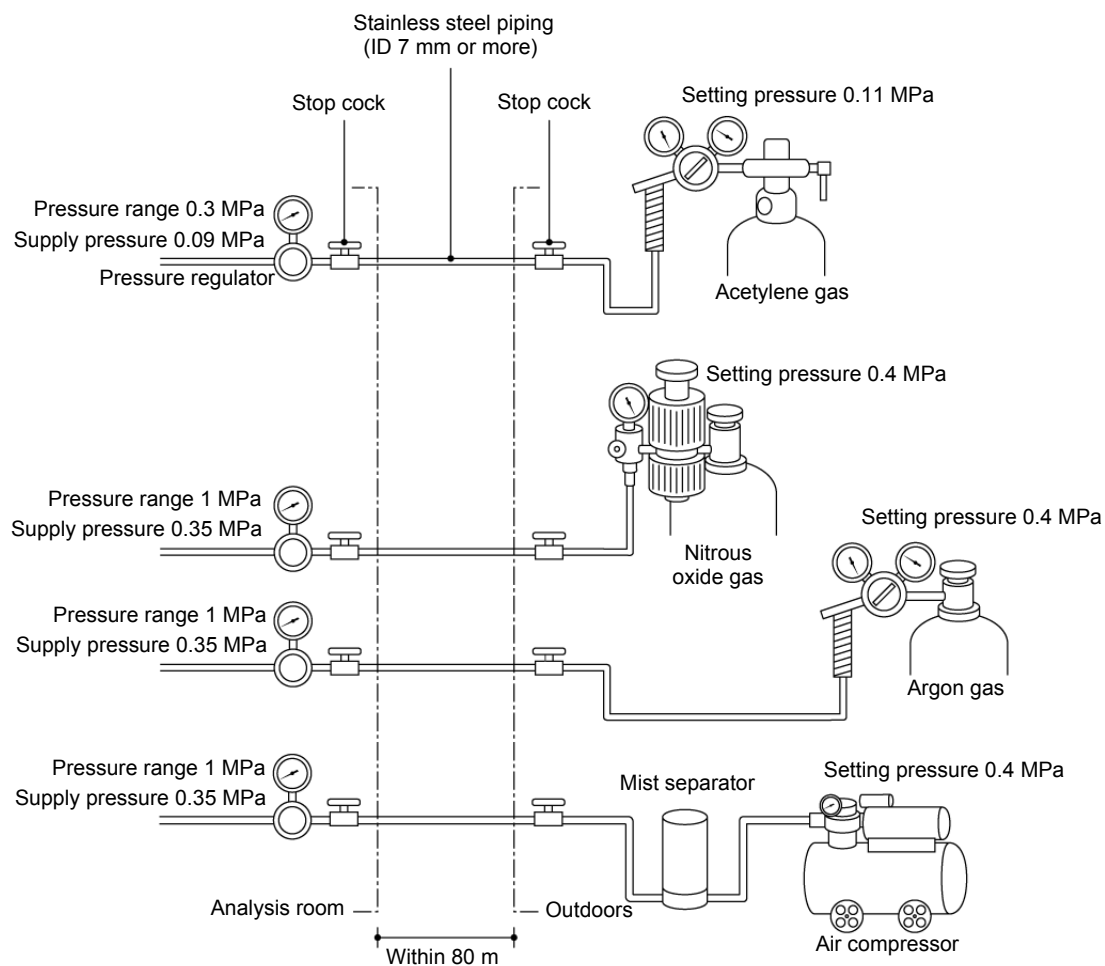

Fig. 10.2 Recommended Piping Setups for AA-7000 Series
- c. Place a mist separator in the air piping system at the location indicated in Fig. 10.2. If a sufficiently dry air supply source is used, a drain separator is unnecessary.